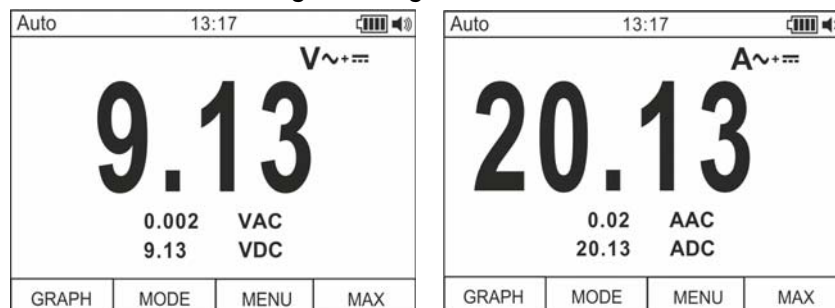

Fig. 3: AC+DC voltage or current measurement description
2. Press the **F2** key selecting the “ $V\sim+==$ ” or “ $A\sim+==$ ” modes (see Fig. 3)